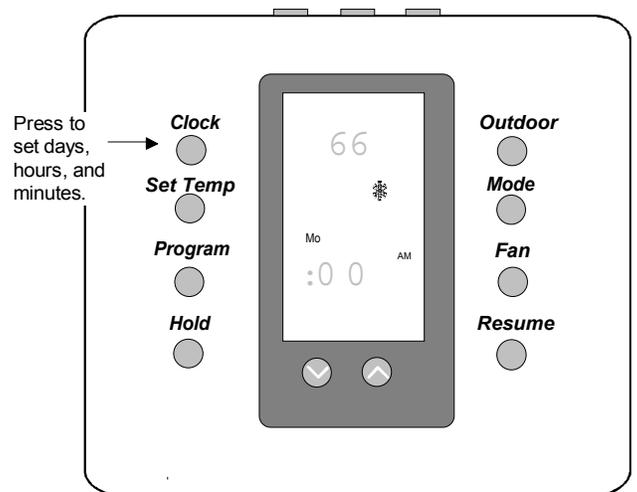

Figure 21: Setting the Current Day and Time
5. Press **Clock** again. The display will flash minutes (:00). (See Figure 21.)